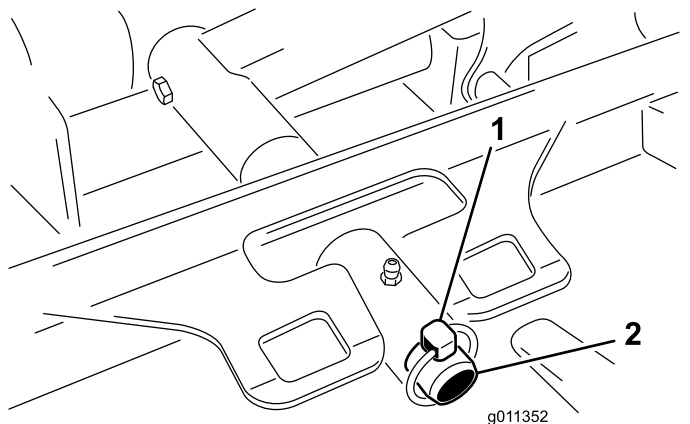

Figure 72
3. Remove the lynch pin (for Groundsmaster 4500 machines) or retaining nut (for Groundsmaster 4700 machines) securing the deck-carrier frame to the lift-arm pivot pin (Figure 72).
2. Slide the deck carrier frame onto the lift-arm-pivot pin (Figure 72). Secure the deck to the pin with the lynch pin (for Groundsmaster 4500 machines) or retaining nut (for Groundsmaster 4700 machines).